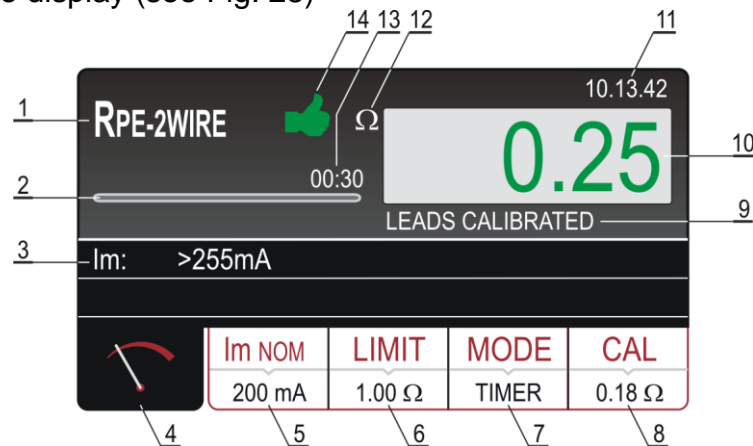

Fig. 28 : Visualization of RPE-2WIRE test result
10. Press the **START/STOP** key to perform the measurement. The test result is shown on the display (see Fig. 28)